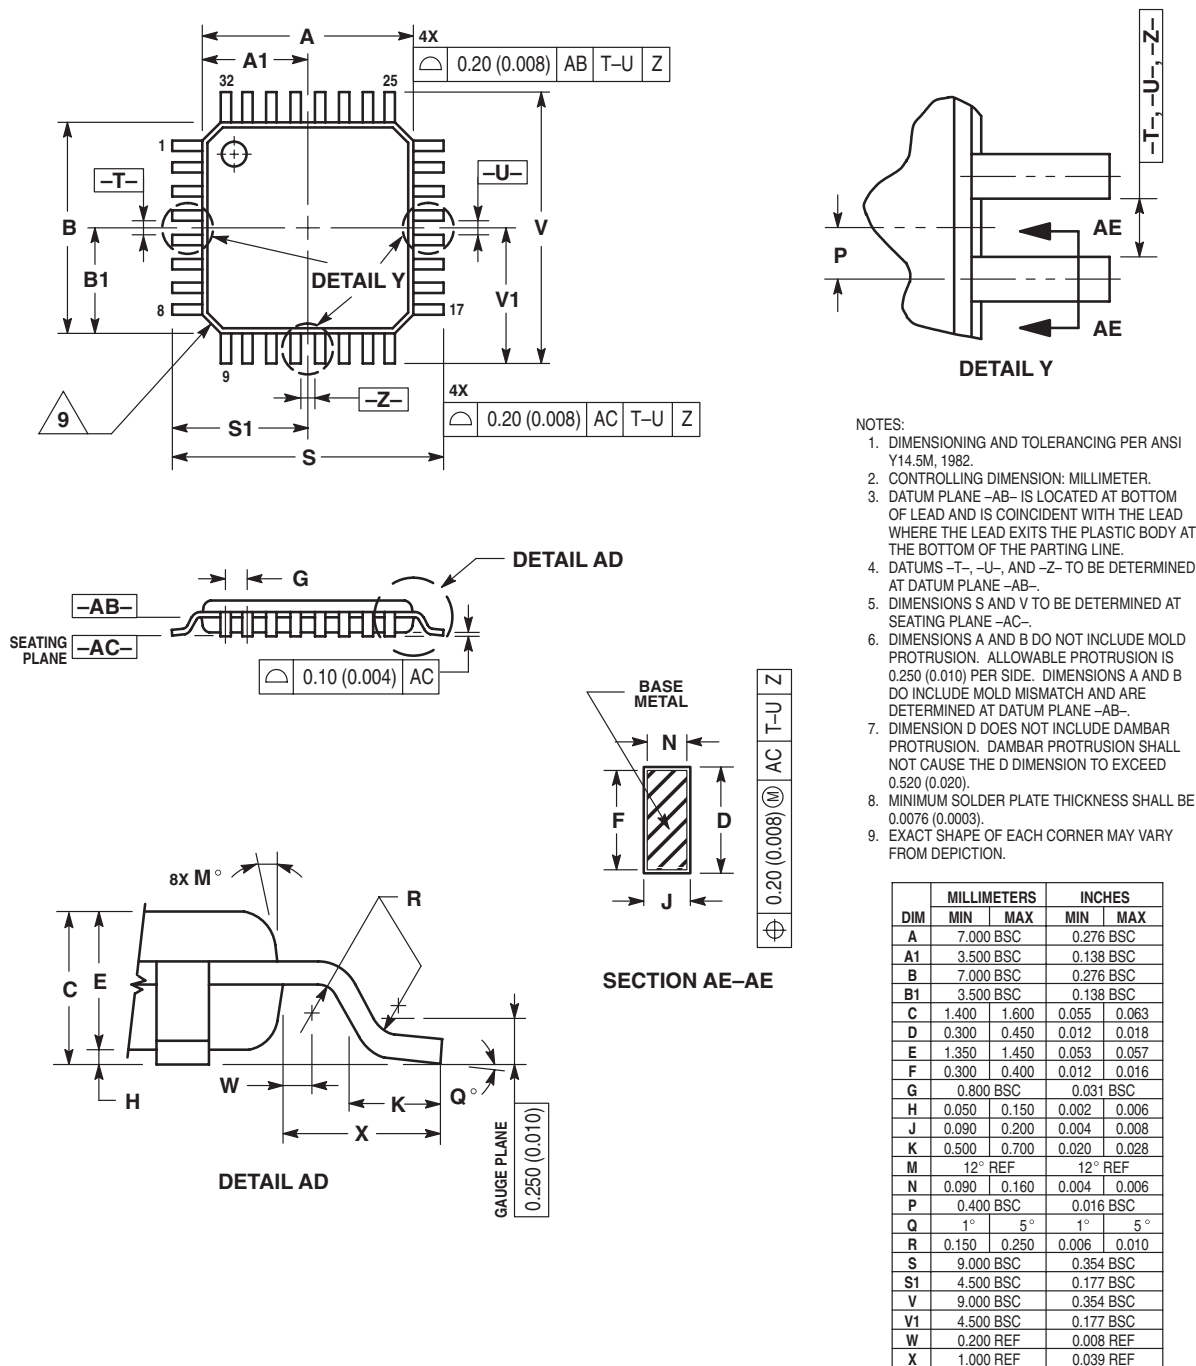

Figure 22. Plastic 32-Pin QFP (Case 873A)
- Plastic 32-pin QFP, Figure 22
1. POSITIONAL TOLERANCE OF LEADS (D), SHALL BE WITHIN 0.25mm (0.010) AT MAXIMUM MATERIAL CONDITION, IN RELATION TO SEATING PLANE AND EACH OTHER.